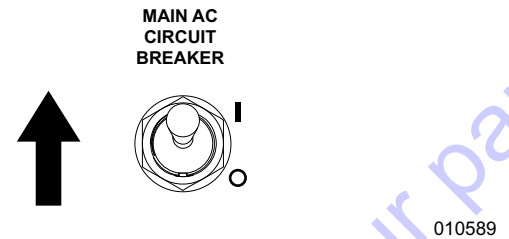

Figure 3-40. Main AC Circuit Breaker ON (I)
- See Figure 3-40. Switch main circuit breaker to ON (I).